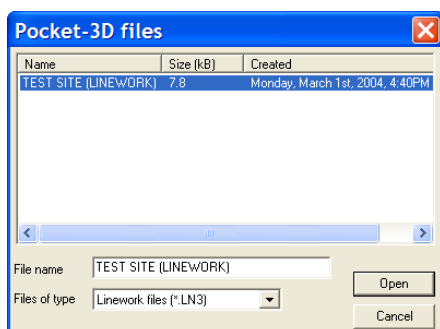

Figure 4-2. Open Pocket-3D Linework File
3. On the *Pocket-3D files* dialog box, select the file to import and click **Open** (Figure 4-2 on page 4-3). The file type is automatically selected.